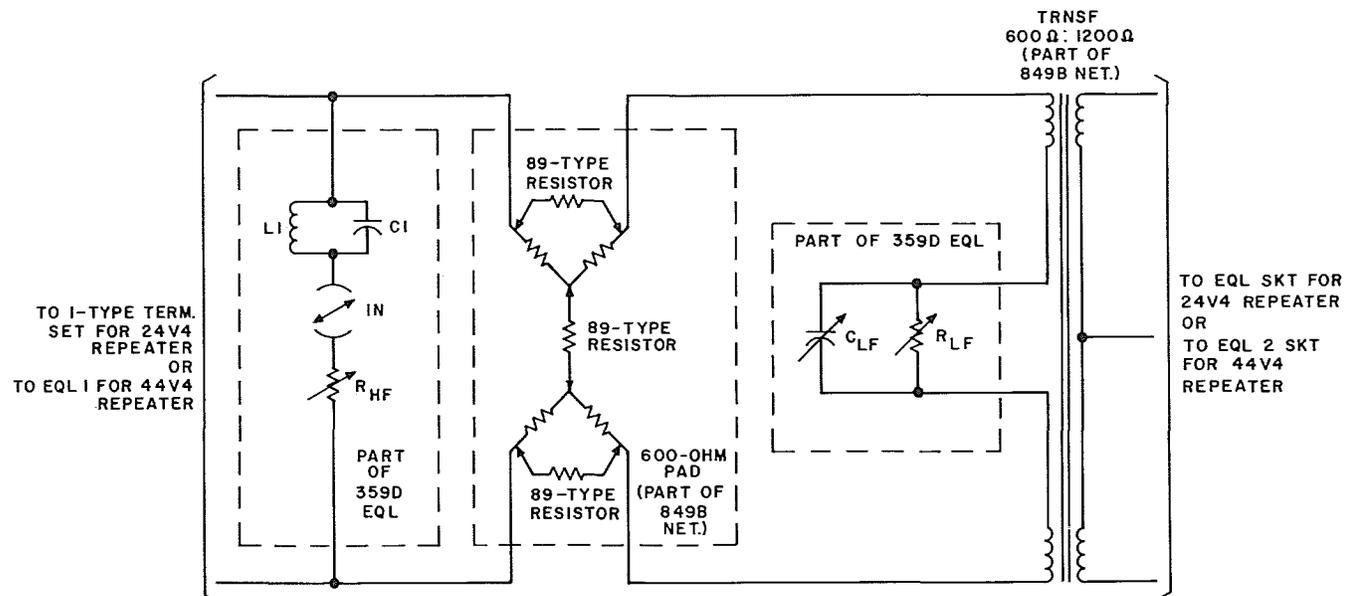

Fig. 2—359D Equalizer—General Circuit Configuration and Location in 849B Network
3.01 The general circuit configuration of the 359D equalizer is illustrated in Fig. 2. This figure illustrates how the equalizer is used with the associated 849B network. Resistor R_{LF} and capacitor C_{LF} make up the series arm, low-frequency equalizing section; inductor L_1 , capacitor C_1 , and resistor R_{HF} make up the shunt arm, high-frequency section. The pad-socket and associated 89-type resistor in the 849B network make up a 600-ohm pad which reduces interaction between the high- and low-frequency